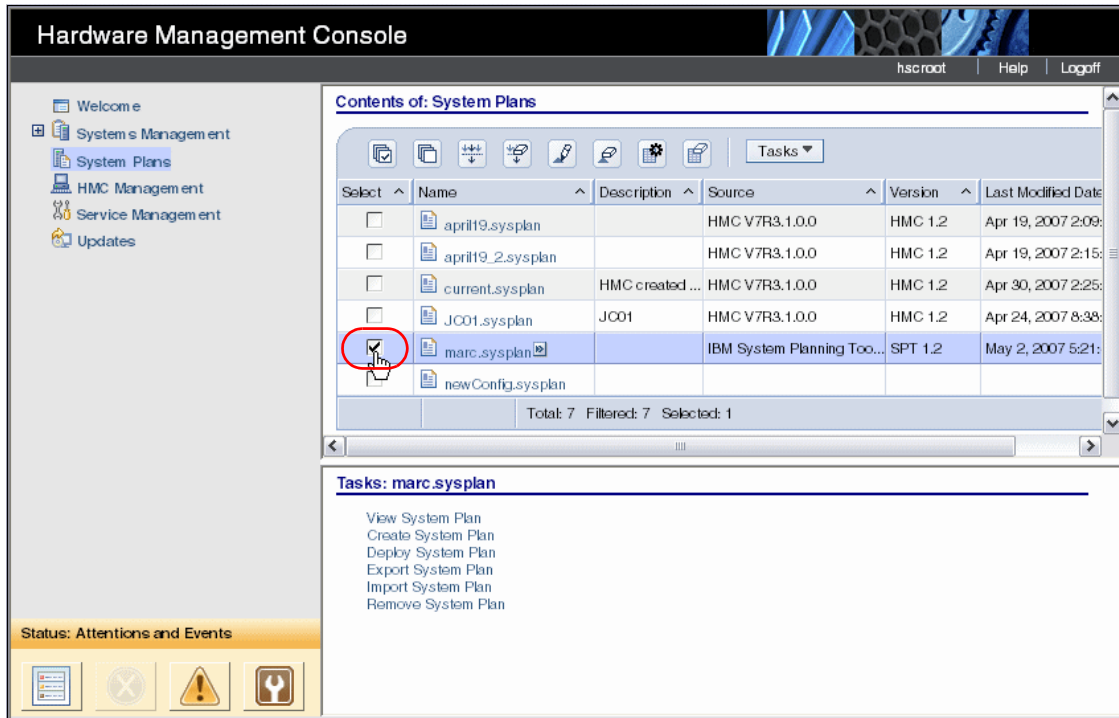

Figure 4-18 Select the system plan to deploy
1. On the list of the system plans, select the one that you want to deploy by clicking the check box to the left of the system plan, as shown in Figure 4-18. In our example, we select the **marc.sysplan** file.